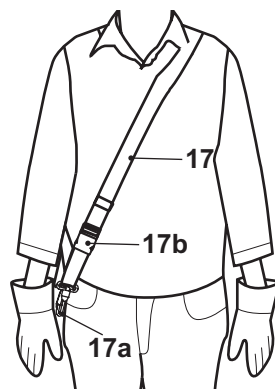
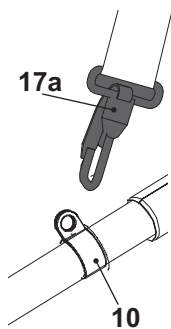

Fig. 5
Fig. 6
1. Place the harness (17) so that it runs over the left shoulder, crossing the chest and back. The securing clip (17a) must be located at the right hip. The quick release (17b) must be in front (Fig. 5).
2. Adjust the length of the harness (17) so that the securing clip (17a) is approximately 15 cm below your waist.
3. Attach the securing clip (17a) to the loop (10) (Fig. 6).